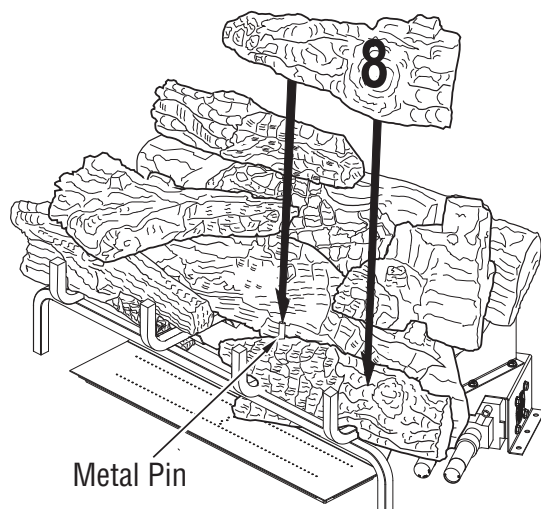

Figure 44 - Installing Log # 8
8. Place the front right mid log (#8) on top of the front right log (#4) as shown in **Figure 44**. Match the round metal pin on the top of the front right log (#4) with the round hole on the bottom of the front right mid log (#8).